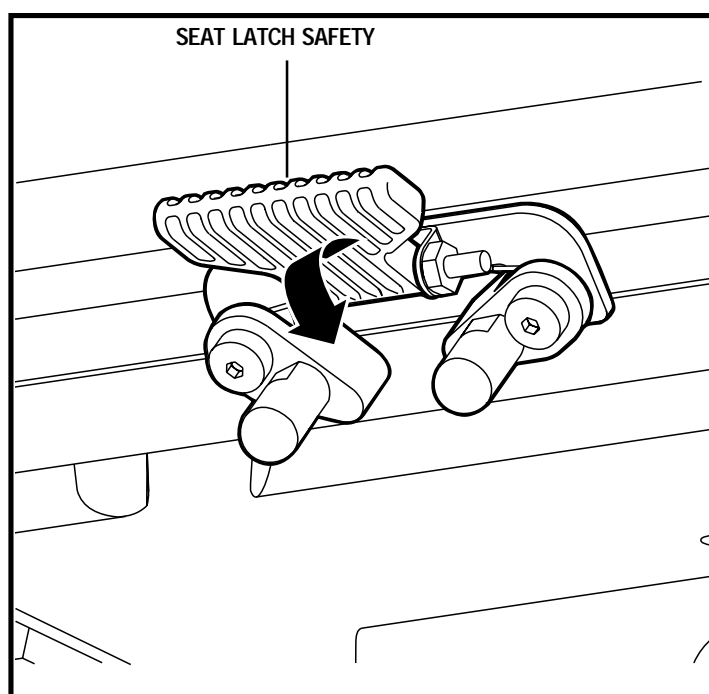

Figure 12. Seat Latch Safety
4. Flip the seat latch safety down. See figure 12.